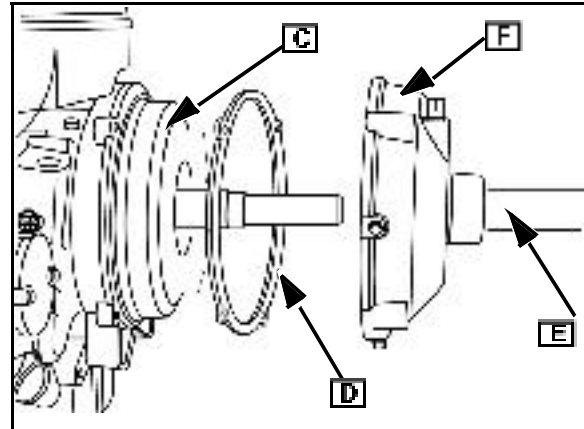

Fig. 29
4. Install large reduction gear (C) and cover gasket (D) Fig. 29).
5. Insert seal protector (E) in seal of cover. Install cover (F) Fig. 29) to gear case.